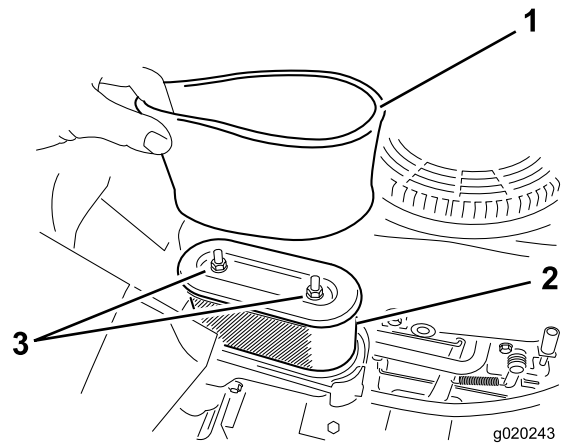

Figure 27
5. Carefully remove the foam and paper filter elements from the air-cleaner housing (Figure 27).
1. Install the foam filter onto the paper filter (Figure 27).